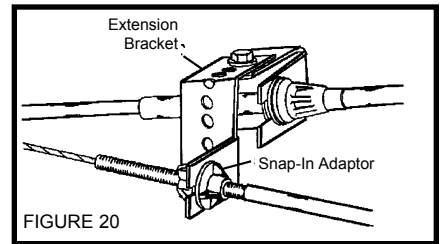
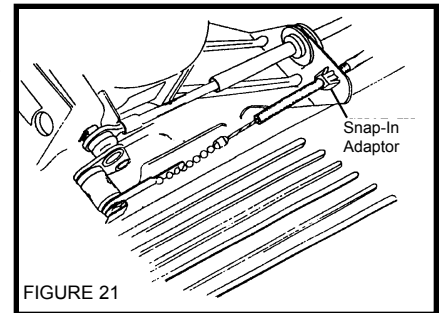

FIGURE 20
FIGURE 21
- c. The **SNAP-IN ADAPTOR** snaps into the square hole of the **EXTENSION BRACKET** **Figure 20** or snaps into an existing square hole on the vehicle (*common on GM™ vehicles*). **Figure 21**